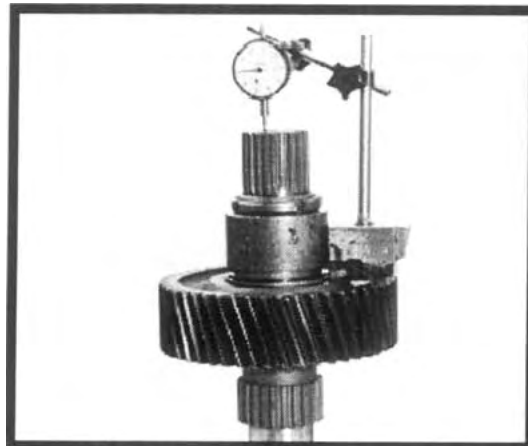

Figure 6.4
- Install a dial indicator as depicted in Figure 6.4. Lift upward on the gear assembly and note the gear end float on the dial indicator. If the end float is not within specification (.000 to .002 inch), it will be necessary to disassemble the shaft by performing Steps 2 and 3 under "INPUT SHAFT DISASSEMBLY" in Section 4. Measure the thickness of the original spacer ring and select a new ring to provide end float within specification. See item 12 in Section P.2 in the parts manual for a list of available spacer rings.